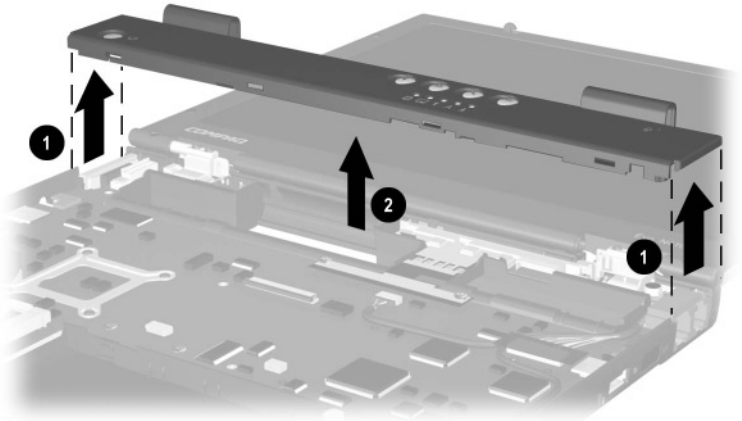

Figure 5-22. Removing the Switch Cover
9. Lift up on the outside edges of the switch cover to disengage it from the base enclosure ❶ (Figure 5-22).
10. Remove the switch cover ❷.